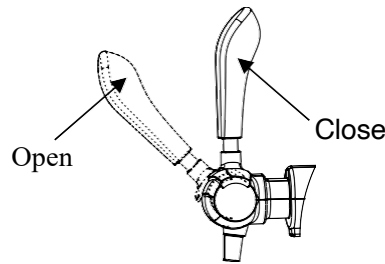

Figure 12
3. Turn on the power switch to “I” position to power on the beer cooler. (While “0” position is to power off) (Show as figure12).